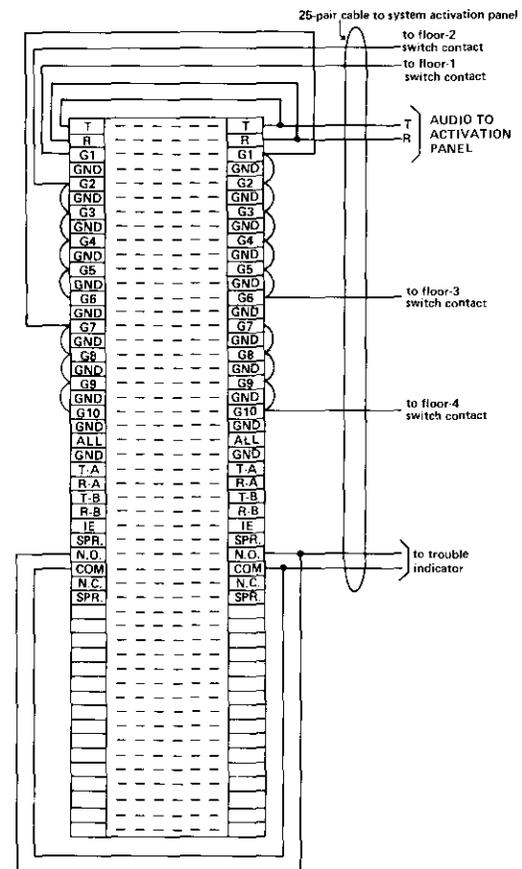

figure 6. Typical activation-panel interface wiring
shows the strapping that must be done for each zone, and figure 6 shows the locations of the group leads on the activation panel.
2.14 For the 293 System to indicate a fuse, power supply, or ringing generator failure, make the following connections: Bridge the trouble contacts on shelf 1 with the trouble contacts on shelf 2 and wire them to the activation panel. Please refer to figure 6 for a typical wiring configuration.
2.15 Each prewired 293 Mounting Assembly is factory wired to accept a common audio bus for all 100 stations. In our hypothetical installation, one common audio message is used for all zones. To accomplish this, bridge the T (tip) and R (ring) audio from the activation panel to both 293 Mounting Assemblies by making appropriate connections to the Type 66 Terminal Block. Then jumper the tip and ring audio from the terminals associated with the first 100 stations to the terminals associated with the second 100 stations. Last, connect the tip and ring audio from the activation panel to the tip and ring audio on Assembly 2. Please refer to figure 6 for additional details.